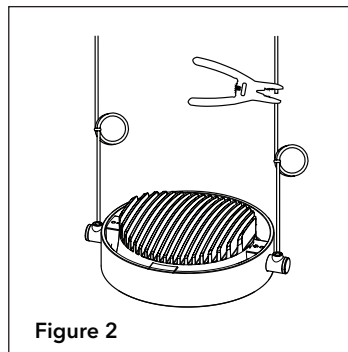

Figure 2
Step 2. Measure intended length of wires and trim off excess, leaving a minimum of 75mm (3") (Fig. 2) to accommodate final adjustment, which is done in Step 9.